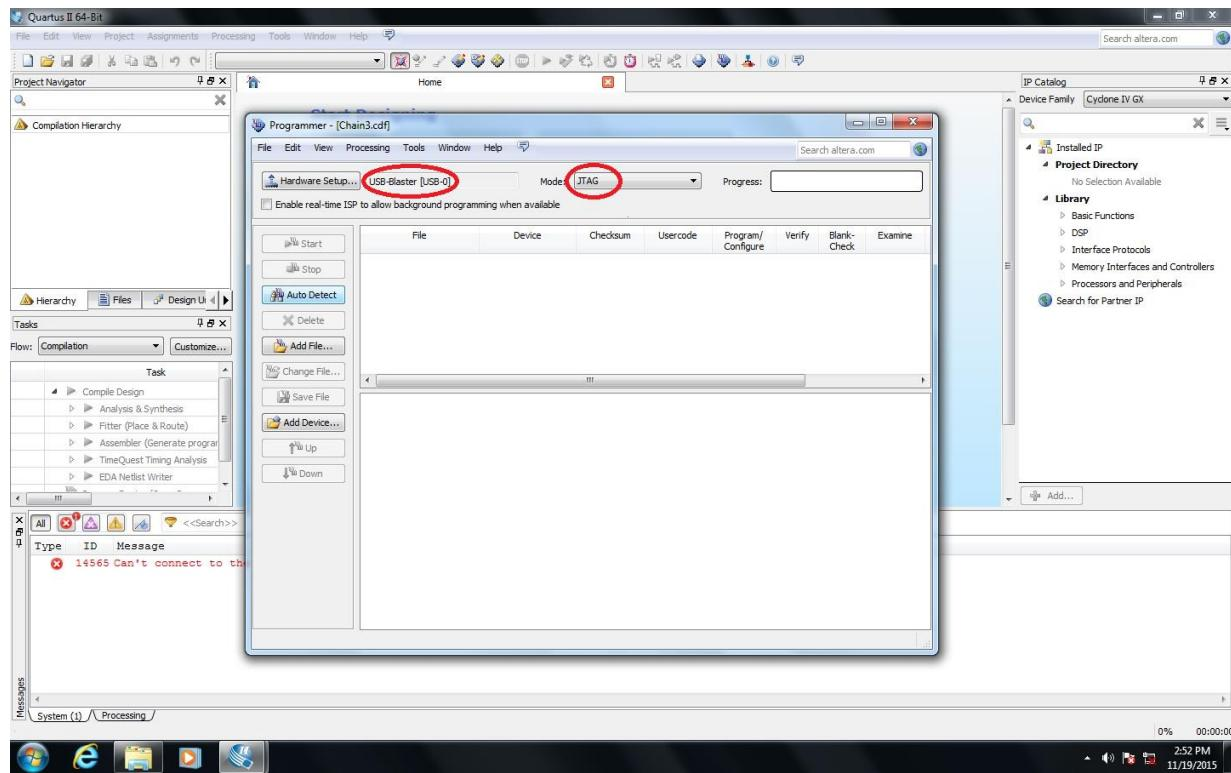

Figure 29: Quartus Programmer window
- Click on the *programmer* field which will open one more window that looks like figure 29. Verify whether the USB-Blaster is selected in the hardware setup. If USB-Blaster is not selected then select it. Also choose *Mode* as *JTAG*.